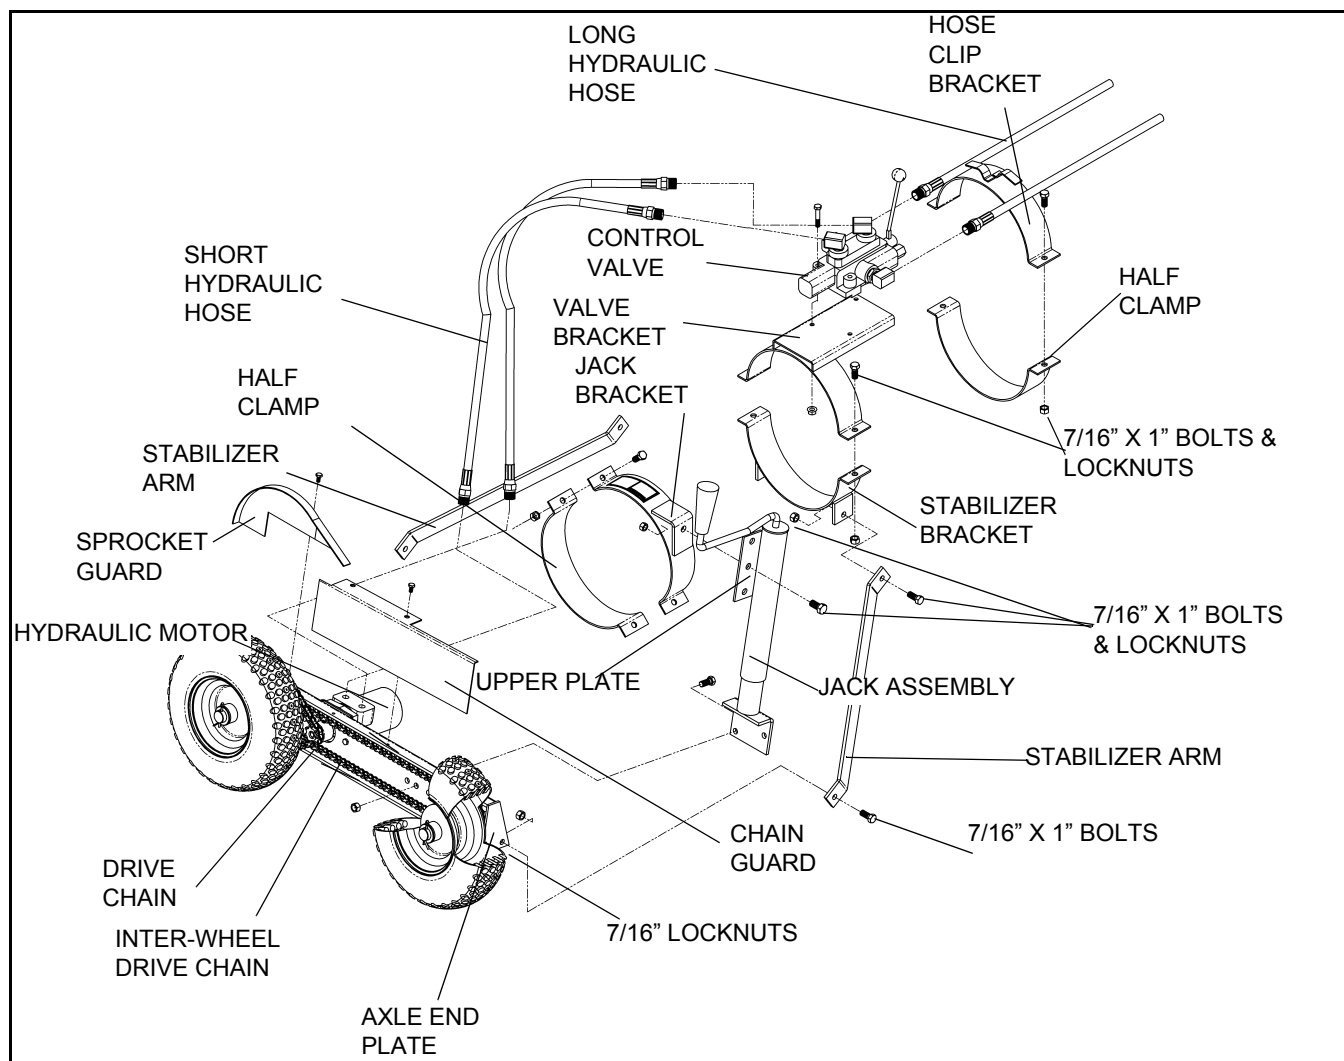

Figure 2.2
6. Attach the hose clip bracket onto the tube approximately 1' - 2' down from the discharge end of the tube, and feed the long hydraulic hoses through the hose clips. Connect long hoses to side ports of the control valve as shown in Figure 2.2.